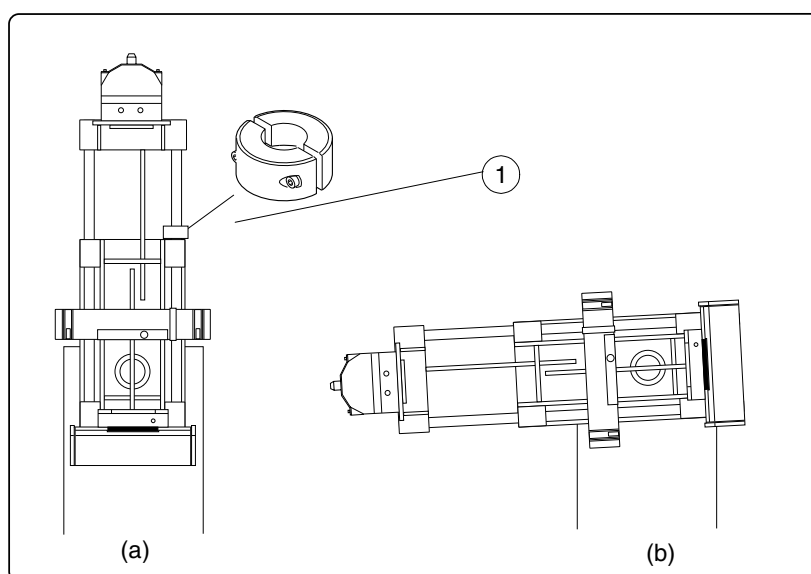

Figure H.15
- When the C-arm is at the upright position, you need always a locking device. Attach the locking device to the bearing shaft (Fig. H.15, 1). It prevents the tubehead to fall down when opening the MAG-mechanism thread. (Fig. H.15, a)
- If you don't have the locking device, turn on the power for a while and drive the C-arm little more than 90 degrees (slightly past horizontal) so that the cassette table is slightly higher than the tubehead. Drive the cassette table to MAG 1.06 position. Turn off the power and unplug the unit. (Fig. H.15, b)